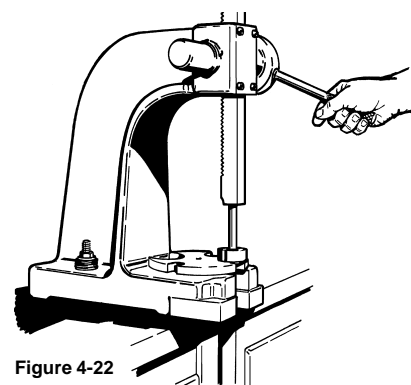

Figure 4-22
- Using the arbor press, remove the two (2) Bearings (#24 & #24A) from the shaft. Refer to Figure 4-22. If the inner race is well supported during this operation, no damage will be done to the bearings.